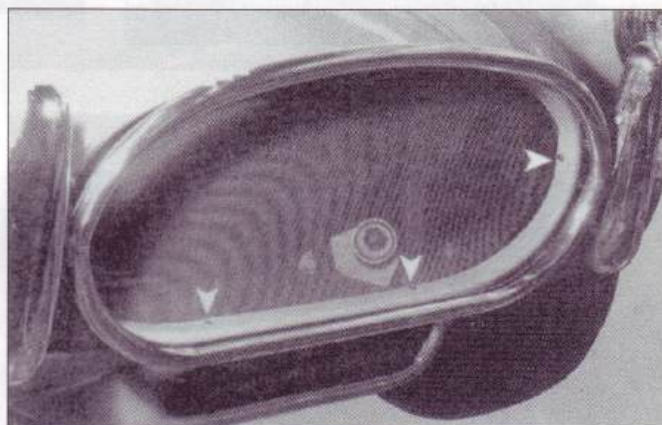

Fig.12c. Main nose grille attached with screws.
2. Fig.12c shows the large centre nose grille attached with screws around the body return lip. The screw positions have been highlighted for clarity.